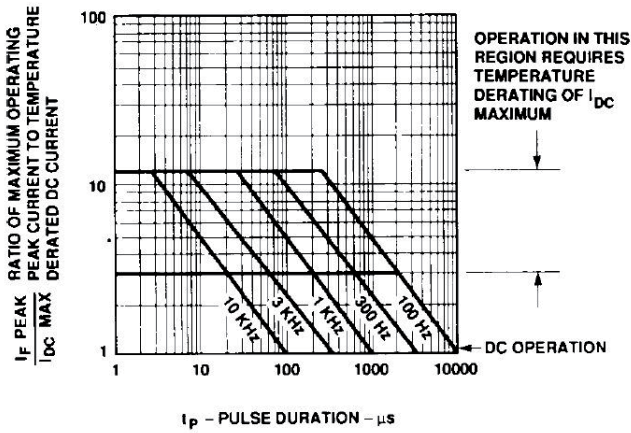

Figure 8. Allowable Peak Current vs. Pulse Duration – Green Series.
7. See Figure 8 to establish pulsed conditions.